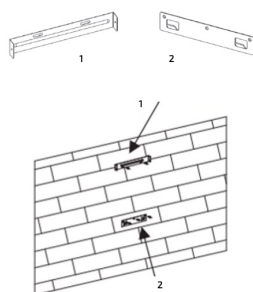
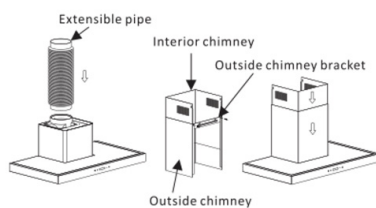

Fig. 5
Fig. 6
2. Install the wall hook in a suitable location and set the installation height. Keep it aligned. Use the screws to fix it to the wall. Fig. 5
3. Fix the outer bracket on the chimney, Fig 5, and make sure that the inner part of the chimney can be adjusted to the installation height, as well as that of the flexible connection pipe. Then, install the flexible connection pipe in the chimney of the kitchen hood, Fig. 6.